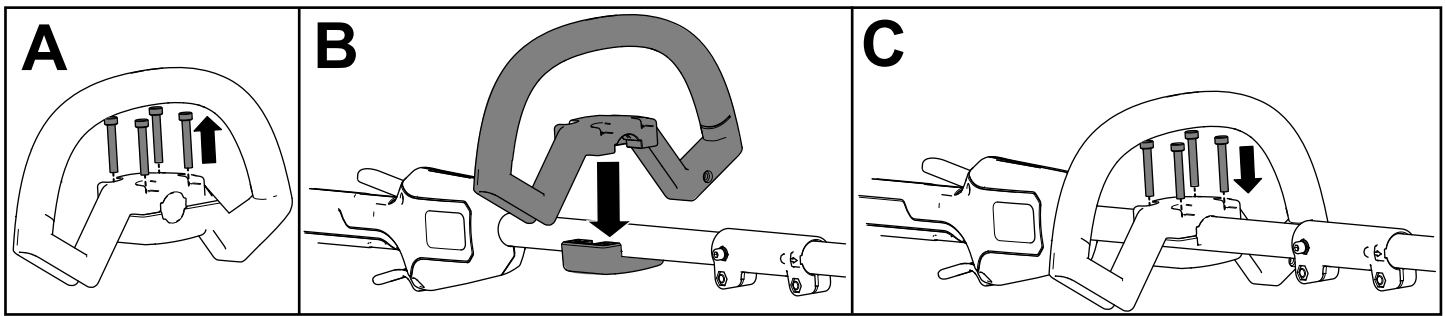

Figure 3
1. Separate the auxiliary handle from the handle plate by removing the 4 socket head screws (A of Figure 3).
2. Line up the auxiliary handle with auxiliary handle plate on the trimmer handle (B of Figure 3).
3. Secure the auxiliary handle to the handle plate with the 4 socket head screws previously removed (C of Figure 3).
3. Secure the guard onto the base of the trimmer with the 2 socket head screws, 2 washers, and 2 spacers previously removed (C of Figure 3).